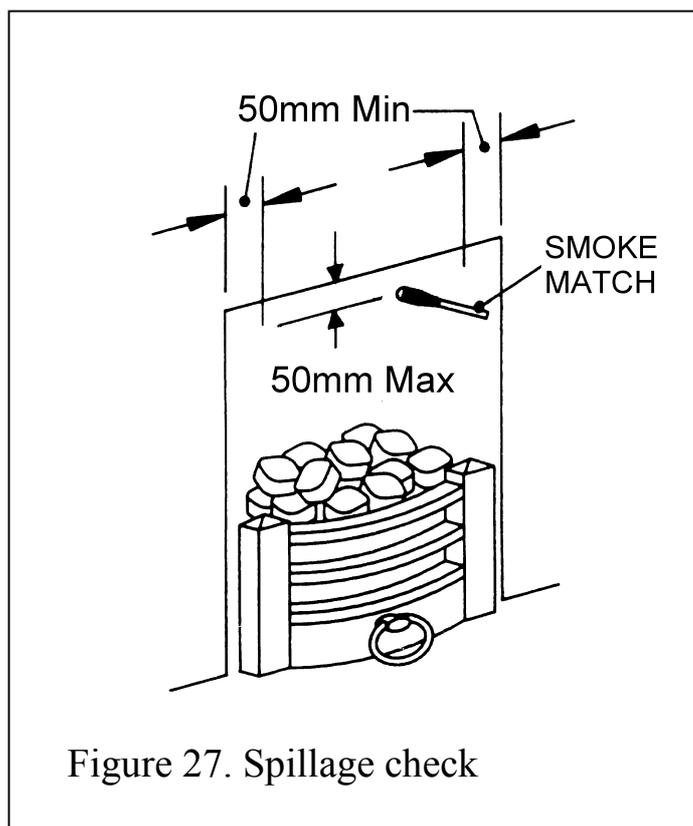

Figure 27. Spillage check
- *A spillage check must be made before leaving the installed appliance with the customer. Make this with all the ceramic coals and decorative firefront in position. (See figure 27)*